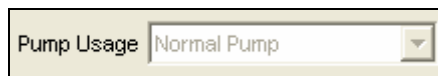

Figure 16.3.4B
3. Next check and see what the **Pump Usage** box is set at (Figure 16.3.4B).